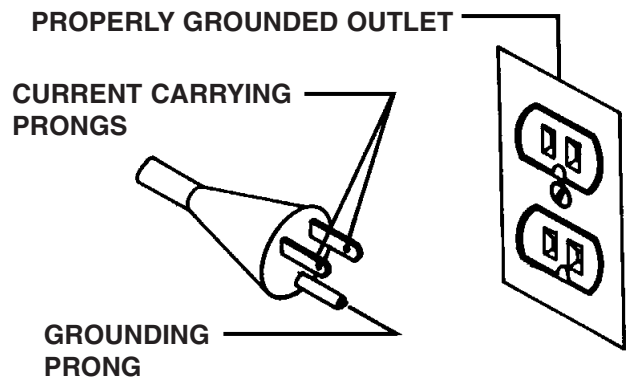

FIGURE 2
3. The 220V plug supplied with the edge sander must be replaced with a CSA listed plug suitable for 110V operation. This plug is illustrated in Fig.2. Contact your authorized service center or qualified electrician to install the plug and to change the connections from 220V to 110V. The edge sander must comply with all local and national codes after the 110V plug is installed.
outlet having the same configuration as illustrated by the grounded outlet box in Fig.2. No adaptor is available or should be used for 220V operation.